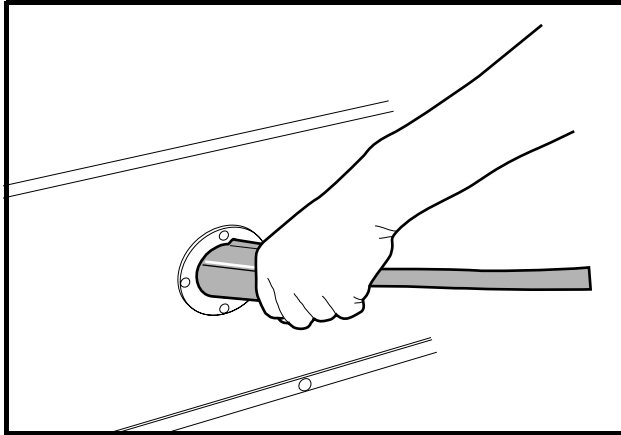

Figure 24-6 Correct Insertion of Charger DC Plug
- Do not rock or bend the plug. To connect the charger plug to the vehicle receptacle, grasp the plug handle and push the plug straight into the receptacle (Figure 24-6, Page 13).
Insert the charger DC plug into the vehicle receptacle. The charger will turn on two to ten seconds later (Figure 24-6, Page 24-13).